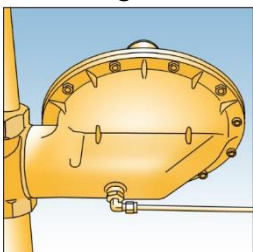

Fig. 4
5. Connect the impulse line (1/2"), using a jointing compound approved to national standards, and lead to a point downstream not less than fifteen times the nominal pipe diameter from the outlet. See Fig. 4.